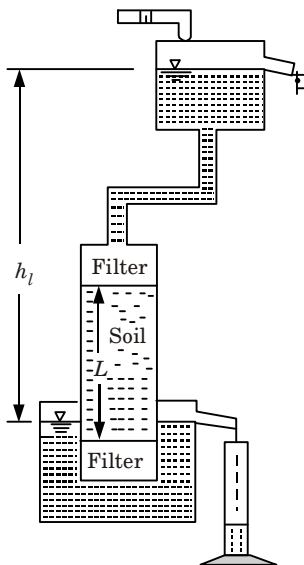

Fig. 9.
- ii. Fig. 9 shows the arrangement in which the flow is one-dimensional and in downward direction.